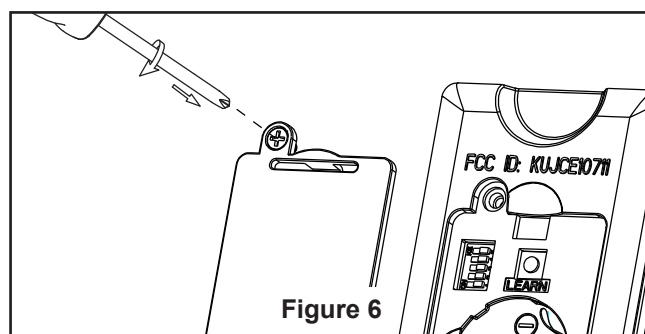

Figure 6
- ☐ 6. Secure the glass to LED assembly by twisting in a clockwise direction. Twist the glass gradually **until it snaps onto the LED assembly**. Do not over-tighten. (Figure 6)
- ☐ 6. Replace battery cover on the remote control and secure with the previously removed screw. (Figure 6)